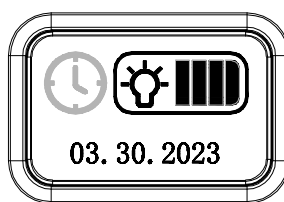

Figure 3
- (1) ⏻ Press this power switch button to turn off the output of the light, the light is off. Press it again to turn on the output of the light, the light is on! (figure 3)